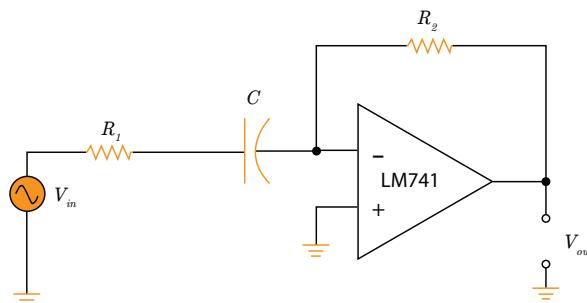

Figure 6.4.3: Configuring the operational amplifier as a differentiator.
9. A practical OP-AMP differentiator is shown in Figure 6.4.3.